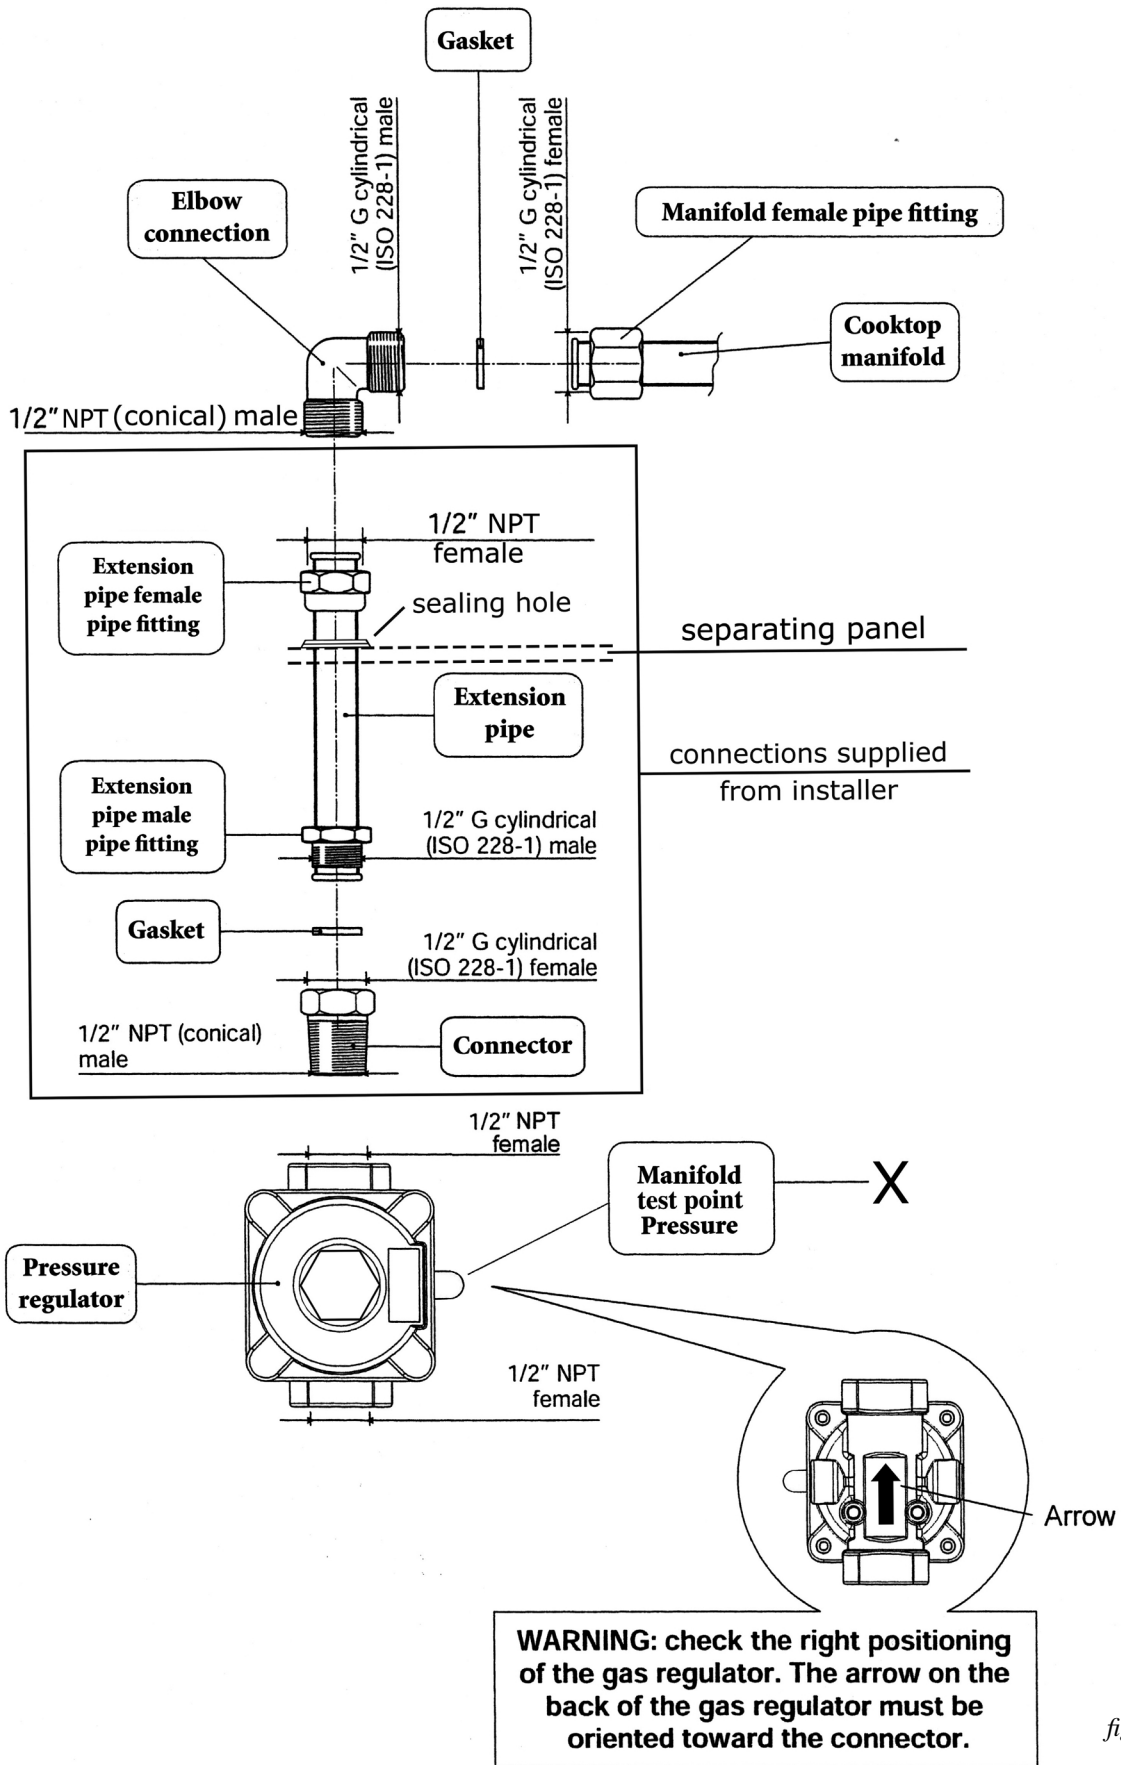

fig.5.2
2. Pressure Regulator (figures 5.2)
d) Manifold pressure should be checked with a manometer; NATURAL gas requires 5,0" W.C.P. and LP/PROPANE requires 10,0" W.C.P. (see Figure 5.2-X)